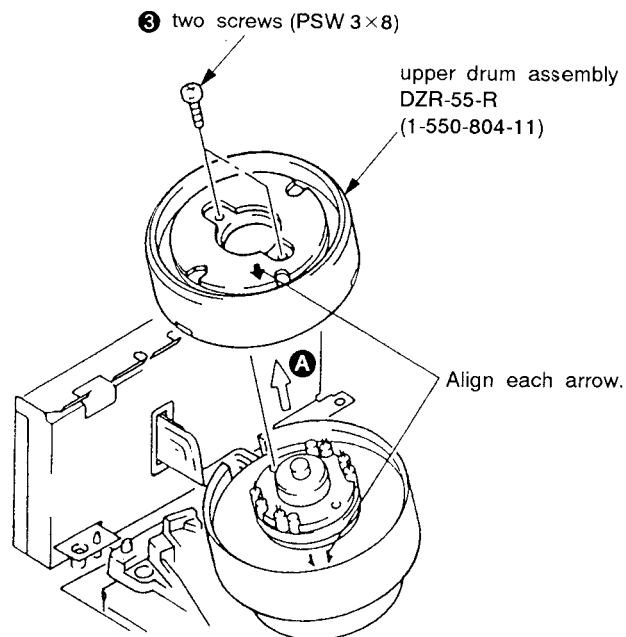

Fig. 5.
- 3) Remove two screws ❸ (PSW3×8) and take out the rotary upper drum in the arrow direction ➊. (See Fig. 5.)
- 2) Mount the rotary upper drum board by aligning marked ➡ with marked ➡ of rotary transformer board (lower drum) so that the screw holes of both upper and lower drums match. (See Fig. 5.)
- 4) Tighten two screws ❸ (PSW3×8). (See Fig. 5.)